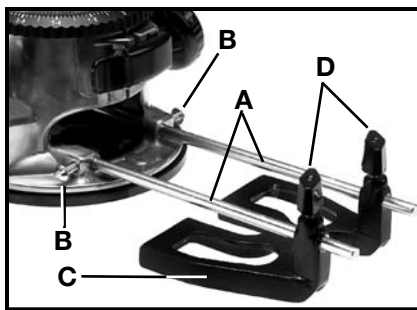

Fig. 6
To assemble, insert guide rods (A) in holes in base Fig. 6 and secure with screws (B). Adjust the guide (C) on the rods and secure it with thumb screws (D).